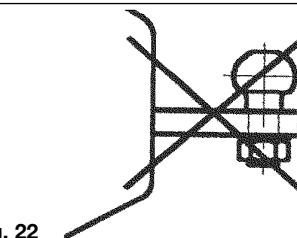

Fig. 22
- A bolted-in type ball coupling (Fig. 22) is only permissible if the thread is locked or welded.